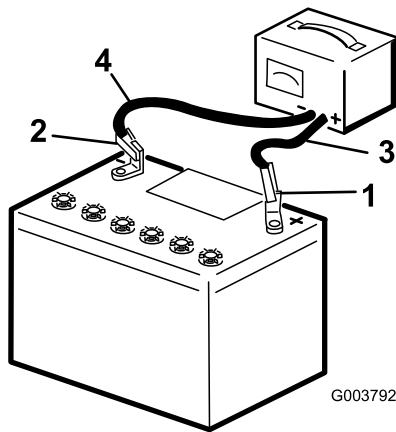

Figure 44
3. Charge the battery for 10 to 15 minutes at 25 to 30 A or 30 minutes at 4 to 6 A (Figure 44). Do not overcharge the battery.
4. When the battery is fully charged, unplug the charger from the electrical outlet, then disconnect the charger leads from the battery posts (Figure 44).